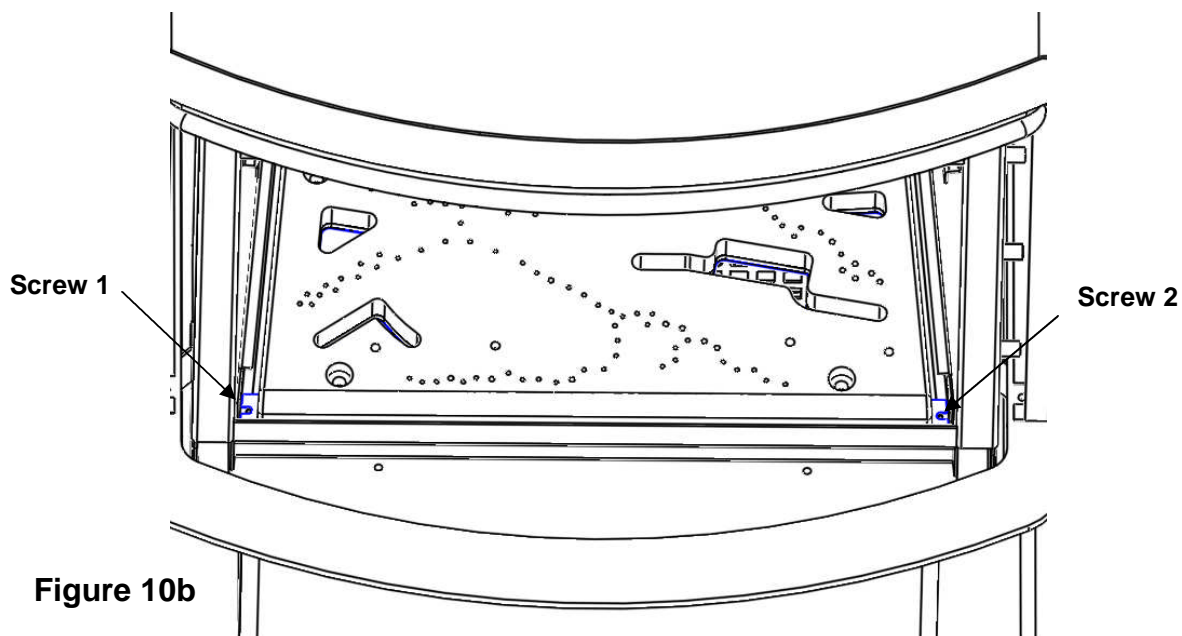

Figure 10b
4. Unscrew the two screws holding the burner in place (see fig 10b)
When placing the burner tray back into the firebox, make sure the mixing tube plenums (see fig 10a) slide over the orifices. Screw burner tray into firebox with two screws (see fig 10b), backup quarter turn on one of the screws (for expansion in material).